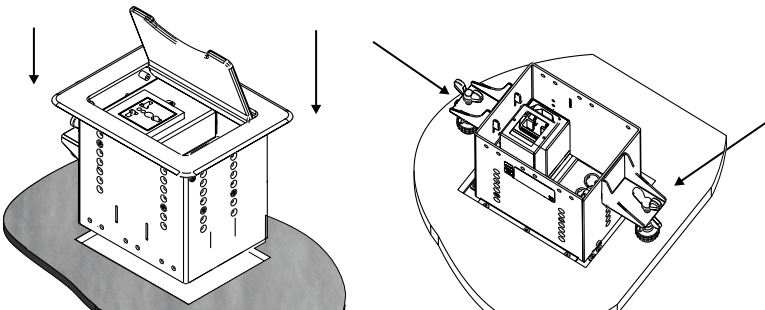

Figure 5: Installing TBUS-9
2. Carefully insert the unit into the prepared opening (see *Figure 5*).
5. Screw both mounting butterfly screws upward until they reach the table surface (from underneath). Tighten firmly (see *Figure 5*).